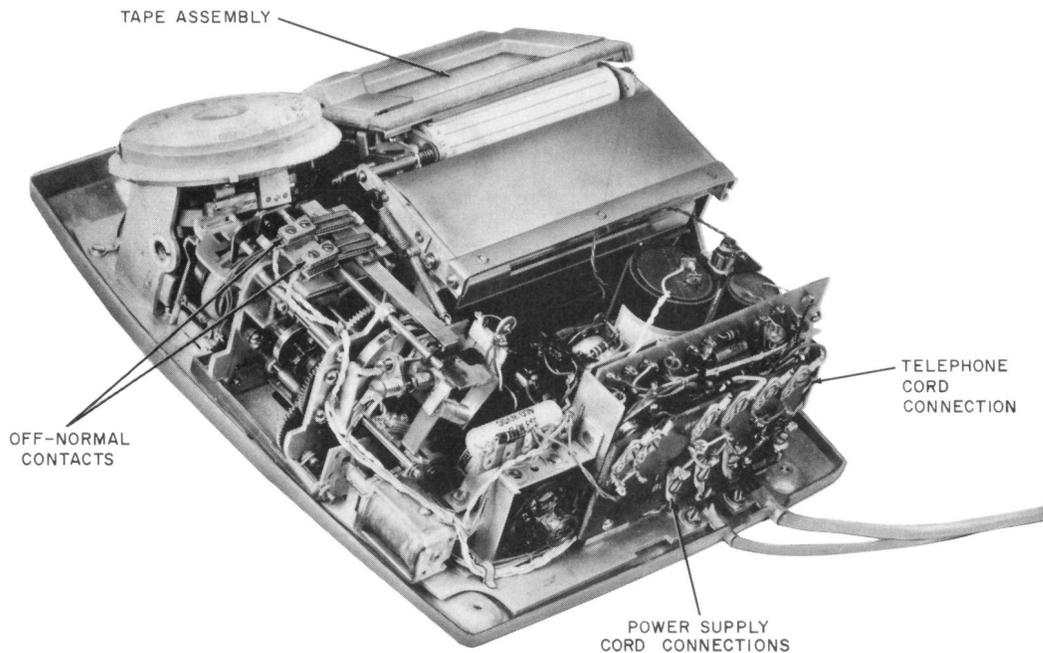

Fig. 5—KS-16844 *Rapidial* (Housing Removed)
(1) Carton 1 (Fig. 5):
5.02 Two sets of off-normal contacts (Fig. 5 and 7) are provided. Their function is the same as the off-normal contacts in a conventional dial, to reduce receiver clicks during operation of **Rapidial**.
- Voltage between terminals 2 and 1, and 2 and 3 on terminal strip in **Rapidial** with voltmeter (Fig. 5).
- (1) Select a blank space on writing tape and record a known telephone number (see 4.05).
- (2) Place 1013A or 1011B (MD) test set (with button in monitoring position across BL and G leads of *Rapidial* telephone cord, Fig. 5).
- (3) Initiate call, listen for pulsing clicks; if pulsing clicks are not heard or if heard and wrong number is reached (and telephone set operation is normal), replace *Rapidial*.